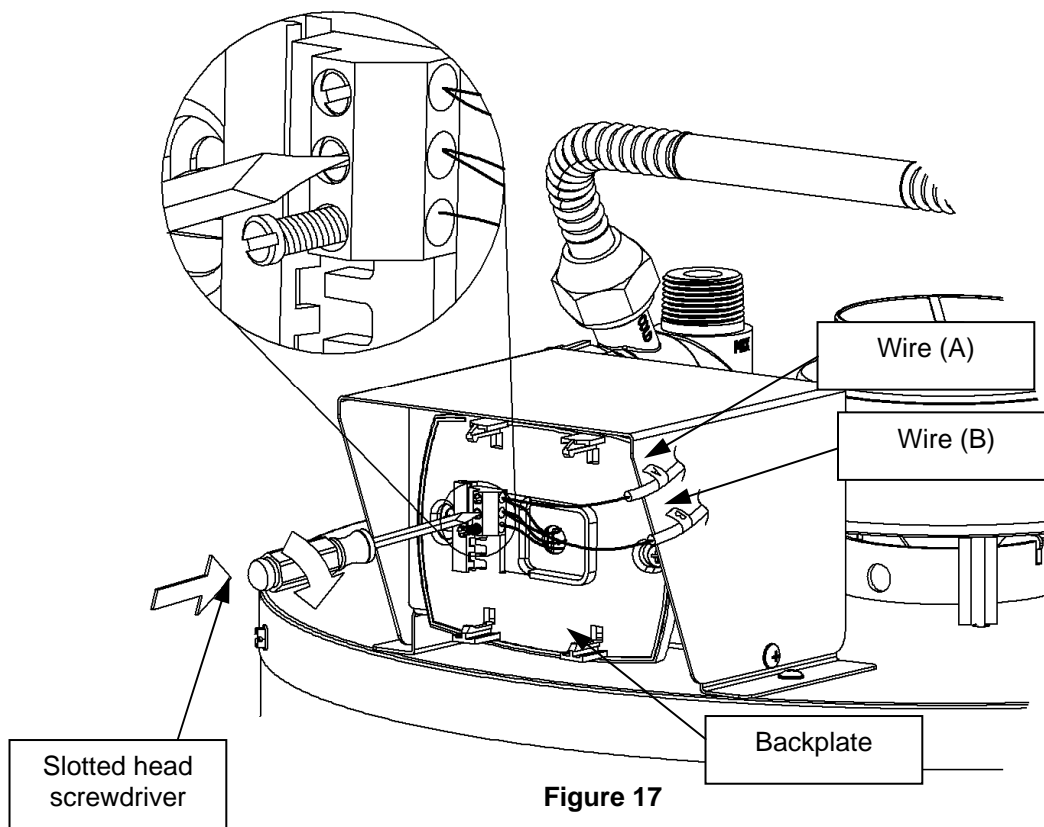

Figure 17
Step 11: Tighten the slotted screw in the middle terminal location on the backplate (located on the Setback Control Junction Box Assembly). This is shown in Figure 17.